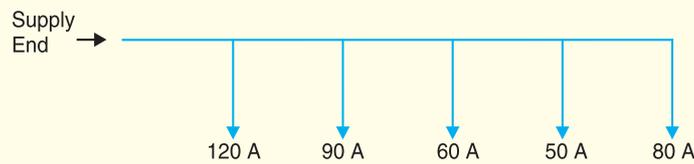

Fig. 13.10
4. A 2-wire d.c. distributor is 250 m long. It is to be loaded as shown in Fig 13.10 at 50 m intervals. If the maximum voltage drop is not to exceed 10V and the resistivity of core material is  $0.7 \times 2.54 \mu\Omega \text{ cm}$ , determine the maximum cross-sectional area of each conductor. **[1.602 cm2]**